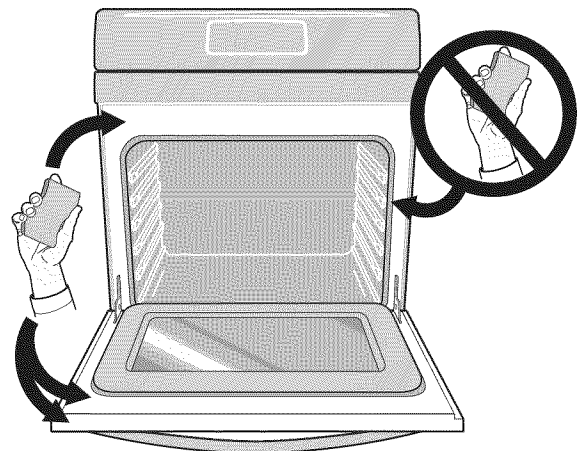

Figure 11: Clean around the oven door gasket
- Do not clean the oven door gasket (Figure 11). The woven material of the oven door gasket is essential for a good seal. Care should be taken not to rub, damage, or remove the gasket.
- Clean any soil from the oven frame, the door liner outside the oven door gasket, and the small area at the front center of the oven bottom. These areas heat sufficiently to burn soil on. Clean with soap and water. These areas are shown in white (Figure 11).